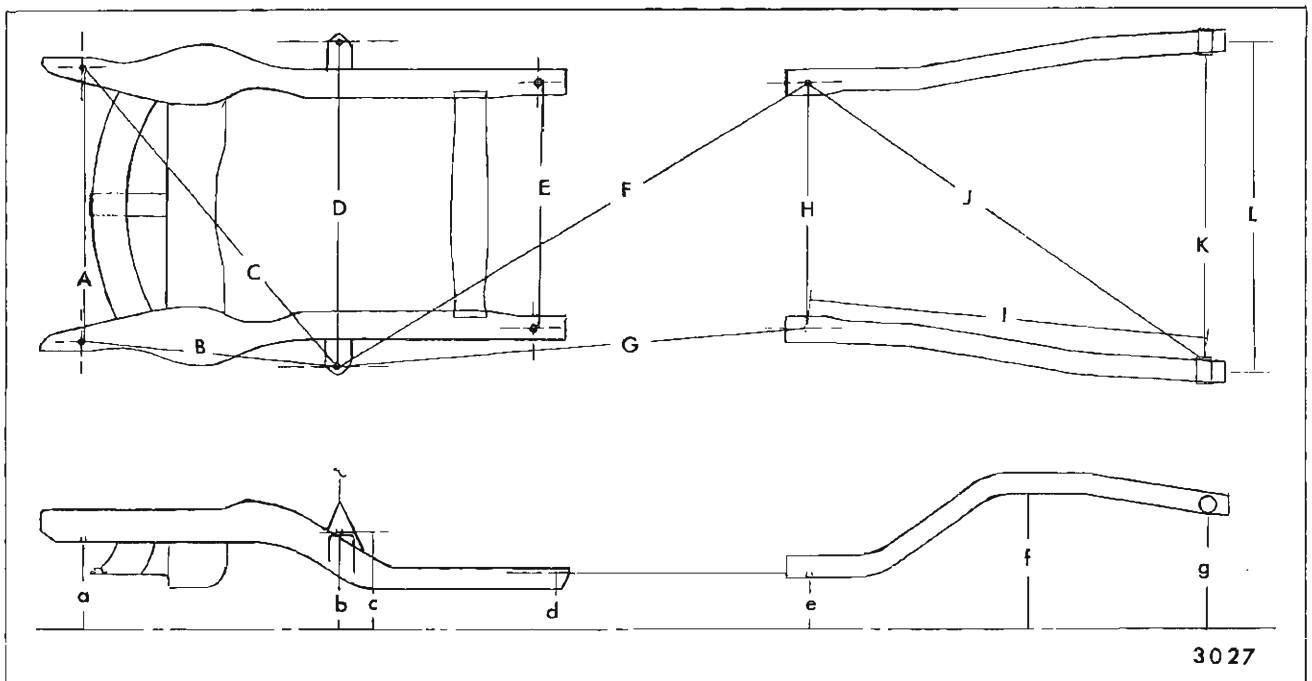

Fig. 3-8—Horizontal & Vertical Checking Dimensions (Camaro & Firebird "F" Bodies)
**(Fig. 3-8 for Camaro & Firebird "F" Bodies)**
Camaro & Firebird "F" Bodies (Fig. 3-8)**